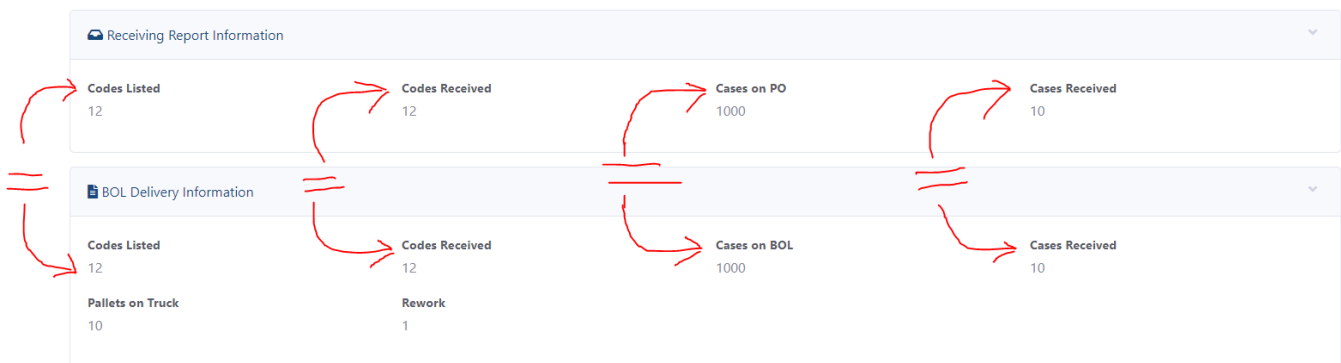

Figure 10; All 4 sections must match to qualify as accurate for the pie chart in Vendor Inspection Accuracy Percentage
- **Vendor Inspection Accuracy Percentage:** This chart compares the accuracy between the Receiving Report (RR) and the Bill of Lading (BOL) in the Inspection form of each respective Inspection that is filled out. The reason for this chart is to compare the accuracy of what the vendor promises they will send (The Receiving Report) and what was actually sent (The Bill of Lading).The ideal situation is that the RR Codes & Cases match’s the BOL Codes & Cases. The relationships are shown below in Figure 10 for which fields should match. If a field does not match then the pie chart will count it as inaccurate and if all 4 fields match then the graph will show as accurate.
- **Vendor Inspection Accuracy Bar Chart:** This chart is the same as Vendor Inspection Accuracy Percentage Pie Chart except it is in bar chart form and the control state may compare up to five vendors at the same time. See Figure 10 for how a vendor qualifies as Accurate or Inaccurate from a delivery inspection.